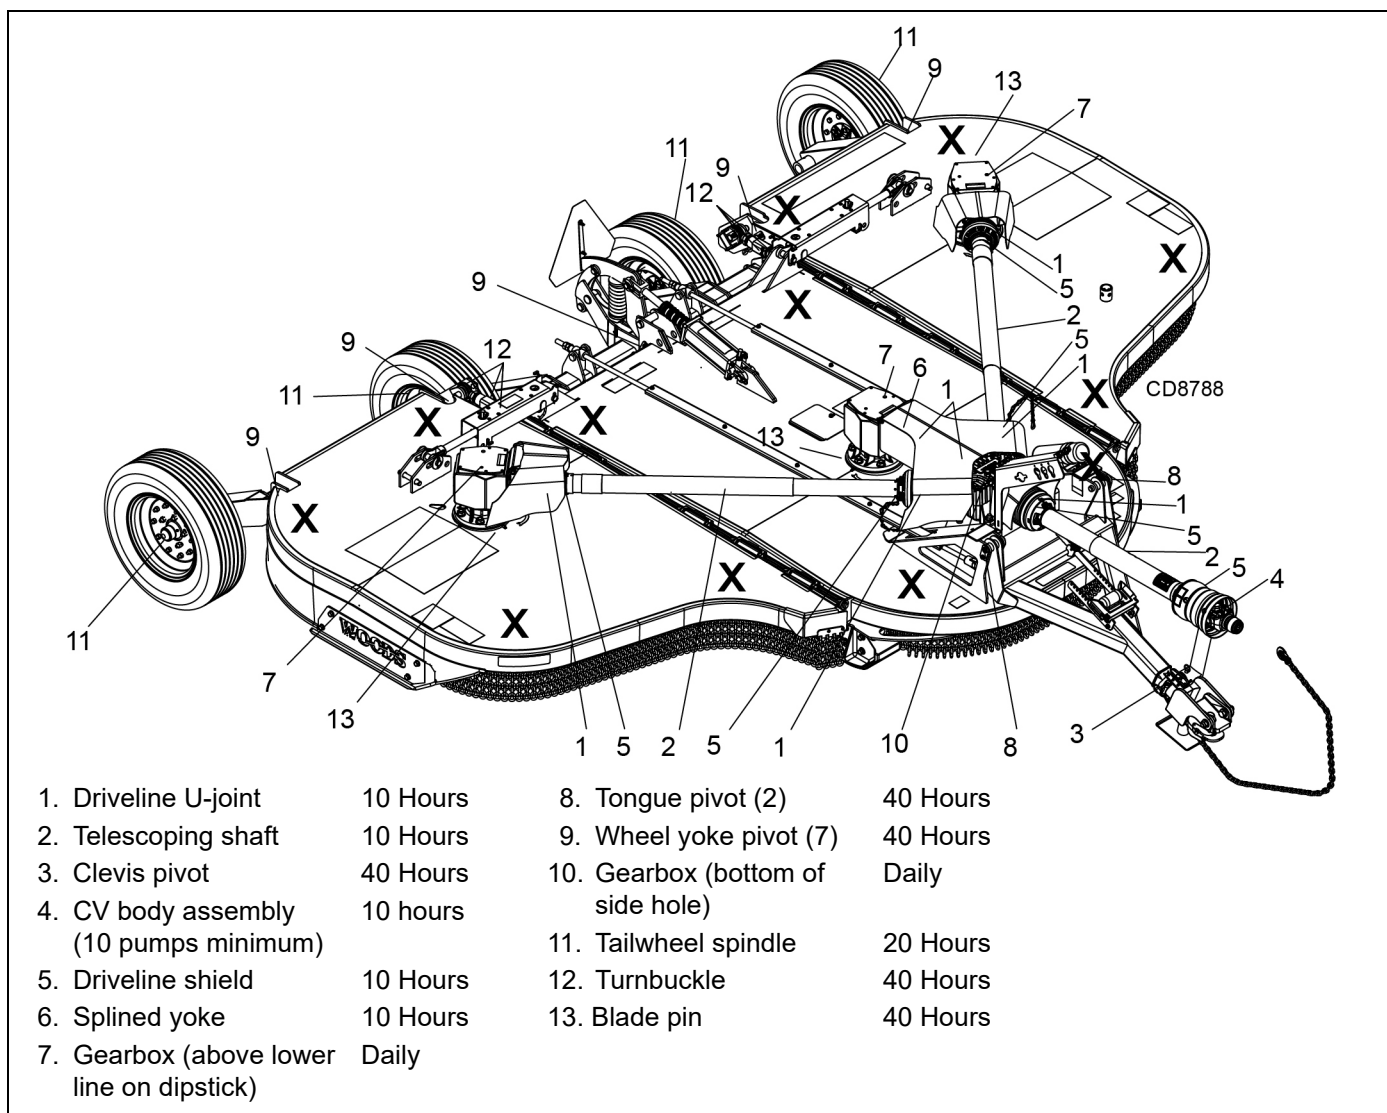

Figure 5. Jackstand Placement and Lubrication Points
1. Jackstands with a load rating of 1000 lbs. or more are the only approved blocking device for this cutter. Install jackstands (shown by Xs in Figure 5) under the cutter before working underneath unit.
See Figure 5 for lubrication points and frequency or lubrication based on normal operating conditions. Severe or unusual conditions may require more frequent lubrication.
2. Raise cutter and block securely (see Figure 5).
3. Align crossbar (8) with blade access hole in the cutter frame. Remove cap screw (16), blade pin lock clip (15), keyhole plate (14), spacer (13), and shims (11 & 12). Carefully drive blade pin (10) out of crossbar.
- If blade pin (10) is seized in crossbar and extreme force will be needed to remove it, support crossbar from below to prevent gearbox damage.